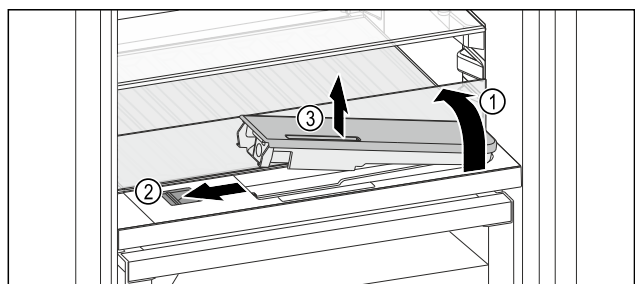

Fig. 219
- ▶ Lift the glass panel and fold towards the rear until it clicks into place *Fig. 219 (1)*.
- ▶ Slide the slider *Fig. 219 (2)* to the left.
- ▶ Remove the water tank *Fig. 219 (3)*.